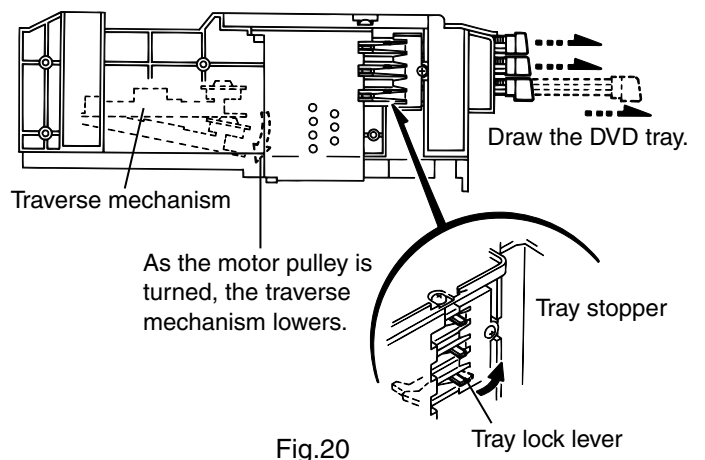

Fig.20
**■ Bringing down the traverse mechanism as shown in the Fig.20**